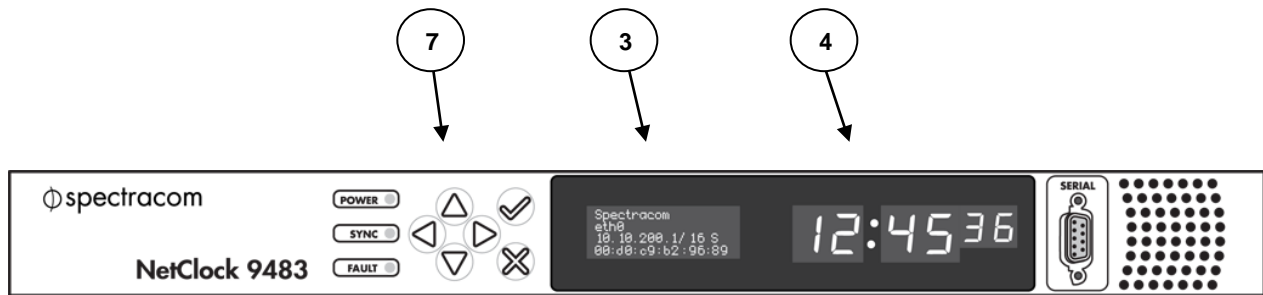
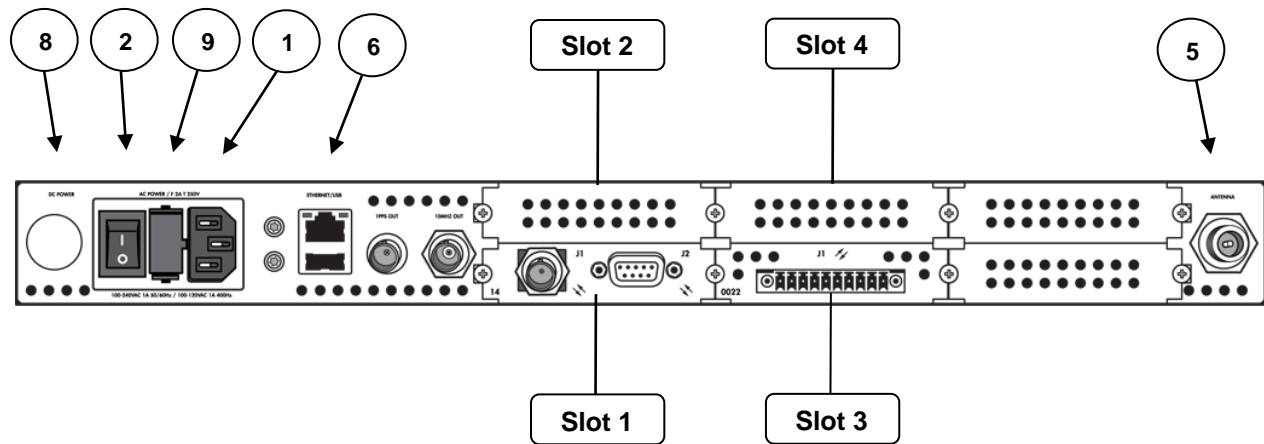

Figure 1-1: NetClock 9483 Front Panel
Figure 1-2: NetClock 9483 Rear Panel
C. Connect the AC power cord to the AC input **[Figure 1-2 (1)]** on the rear panel and AC power source outlet. If rear panel DC port **[Figure 1-2 (8)]** is available, connect DC power if desired.
- D. Turn rear panel power switch **[Figure 1-2 (2)]** on and observe the Power LED illuminates and the LCD display **[Figure 1-1 (3)]** illuminates and displays the current settings after approximately 2 minutes.
- F. If your network does not support DHCP, use the front panel **[Figure 1-1 (7)]** to input the static IP, subnet mask, and gateway values.
- G.** Determine whether configuration will be done from a computer attached to the network, or from a computer connected directly to the NetClock unit. For management from a computer attached to the network, connect a standard Ethernet cable to the Ethernet port **[Figure 1-2 (6)]** on the NetClock rear panel. For management from a standalone computer, connect a crossover cable between the computer and the Ethernet port **[Figure 1-2 (6)]** on the NetClock rear panel. Verify the green link light on the Ethernet port is illuminated.